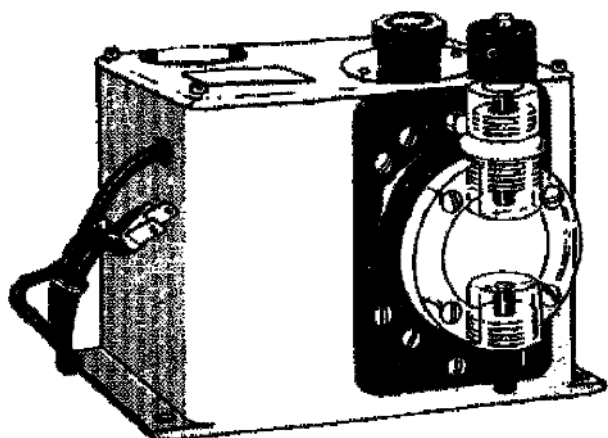

Figure 79. Model S hypochlorinator.
33. *Model S hypochlorinator (manufactured by Precision Chemical Pump Corporation).* The Model S hypochlorinator, shown in figure 79, is a positive-displacement diaphragm pump with a manually adjustable feeding capacity of 3 to 60 gallons per day. A motor-driven eccentric cam reciprocates the diaphragm, injecting the solution into the main supply. Use of chemically resistant plastic and synthetic rubber in critical parts contributes to long operating life.